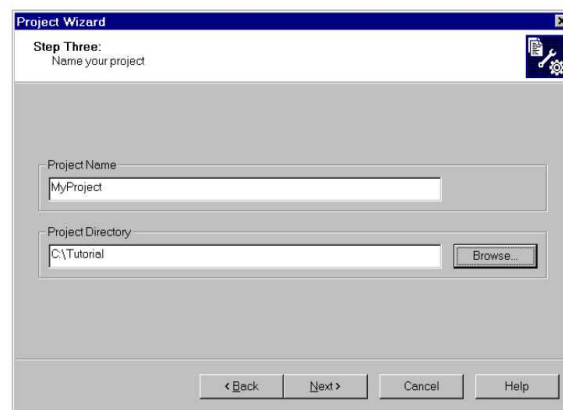

Figure 3: Project wizard, step 3, name your project.
7. Click Next> to continue. The Project Wizard Step Three dialog displays (see Figure 3).